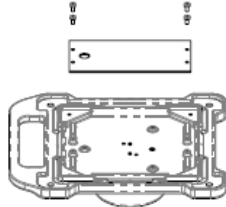

Figure 4-12
2. Unscrew the set screws of four circuit boards (Figure 4-12), replace a new circuit board and tighten the screws.